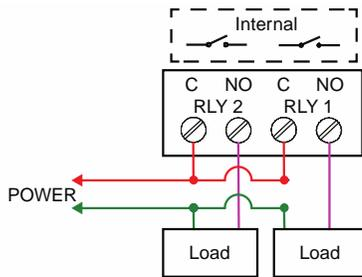

Figure 14. Solid-State Relay Connections
Relay connections are made to a four-terminal connector labeled SSR OUTPUTS on Figure 14. Solid-State Relay Connections. Each relay's C terminal is common only to the normally open (NO) contact of the corresponding relay.